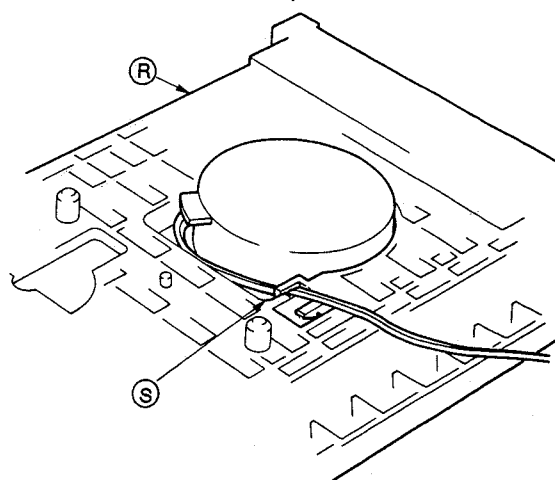

Fig. 1-7
5. Remove the lead wire from the lead wire hook ⑬ (Fig. 1-7) for the spindle motor at the rear of the mechanism base ⑰.
4. While the servo-mechanism unit is raised, hook the lead wire from the spindle motor to hook ⑤ (Fig. 1-7) on the rear of the mechanism base ④.